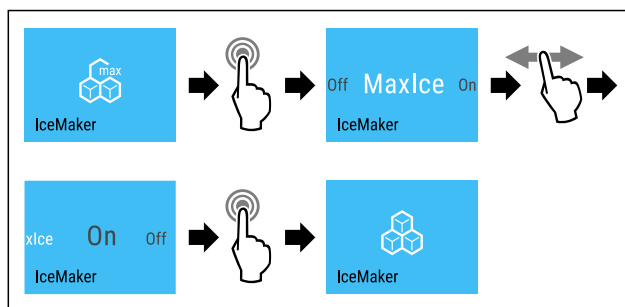

Fig. 19
- Complete the steps (see Fig. 19) .